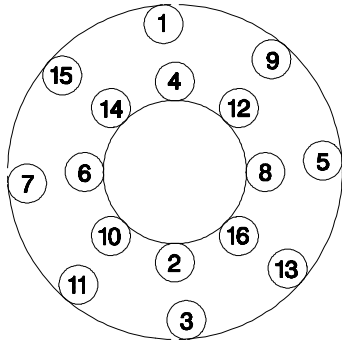

Fig. 23
- 6.4.8 For each wear plate being replaced, follow the tightening sequence shown in Figure 23 for the first 16 screws. The remaining screws may be tightened in any reasonable crosswise pattern. See Table 12 for tightening torques.